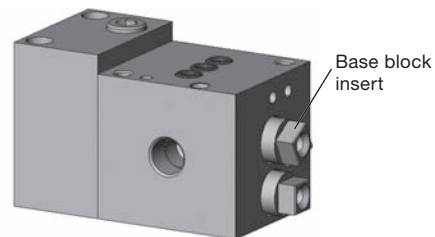

Fig. 2
3. Tighten the two base block insert screws to the two left end base block inserts using a 9/64 in. **hex torque wrench** placed through the **base block inserts** to 35 to 45 in.·lb (4.0 to 5.1 N·m). See Fig. 2.